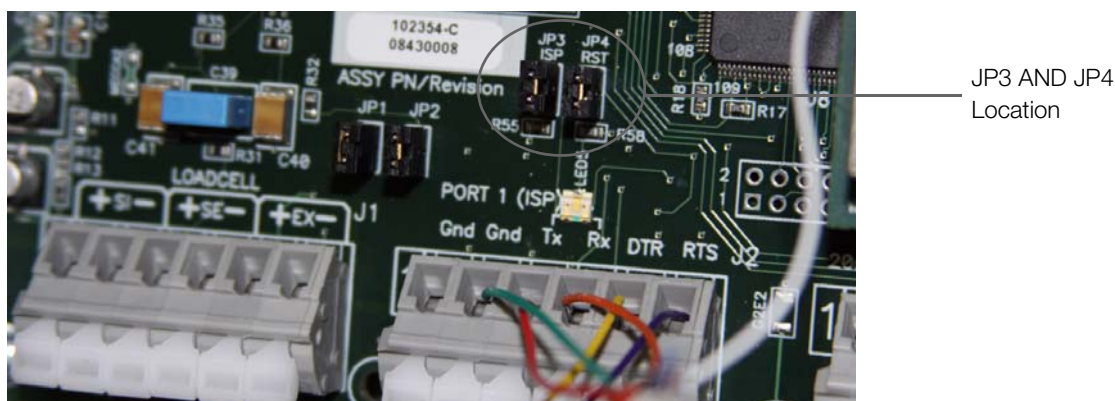

Figure 9-4. Jumpers installed on JP3 and JP4
3. Install jumpers on JP3 and JP4 as shown in Figure 9-4.
9. When complete, remove the jumpers shown in Figure 9-4 on page 70 and press the Power button to power up the indicator.